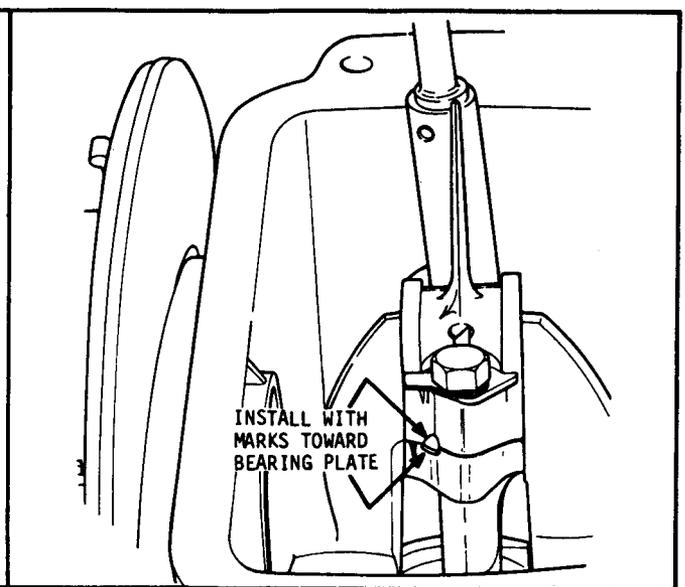

Figure 35 Installing Connecting Rod Cap Screw
- b. It is important that marks on connecting rod and cap line up and face flywheel end of engine. (See Figure 35)